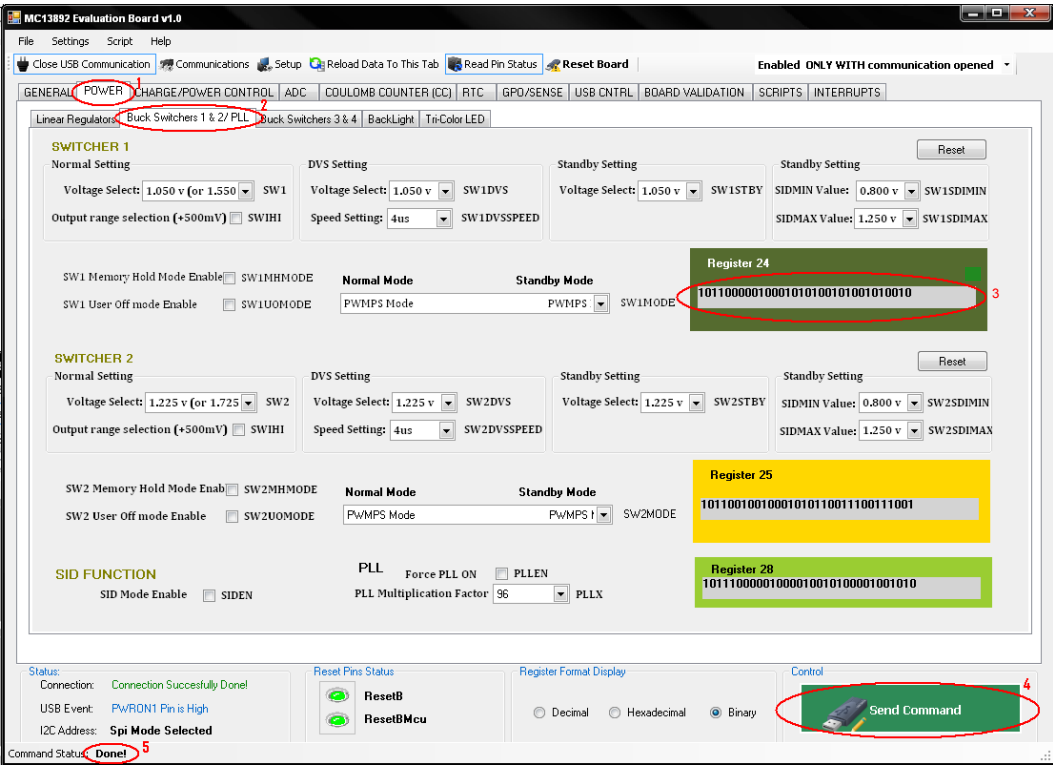

Figure 22. Writing and Reading Commands thru the Software Program
On the example (Figure 22), the “Power” tab has been selected (1); this tab controls the registers for the Linear Regulators, Backlight, and RGB LED blocks. On the Buck Regulators 1 and 2/PLL sub tab (2), all the functions of these two regulators and the PLL frequency can be changed.